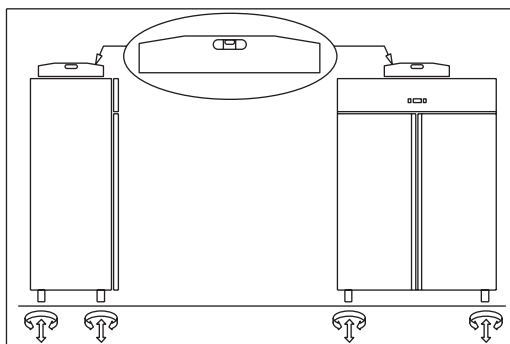

Fig.5
- position the refrigerated cabinet using a level with possible adjustment of the feet of the metal base (Fig. 5 )